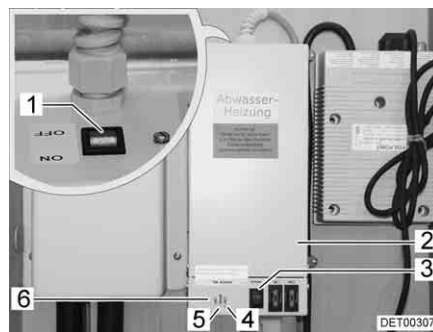

Fig. 116 Transformer with control unit
The 230 V AC/12 V DC transformer (Fig. 116,2) is installed in the wardrobe or in the storage area beneath the seating group, depending on the model.
- The indicator lamp (Fig. 116,5) lights up in green: Regulation in operation
- The indicator lamps (Fig. 116,4 and 6) light up in red: Waste water pipes are warmed
A test button (Fig. 116,3) is integrated in the housing with which the control unit can be operated for a short time. By pressing the test button, the function of the warming unit can be tested, even if the ambient temperature is above 5 °C.
- Turn switch (Fig. 116,1) on the transformer (Fig. 116,2) to "ON".
- Turn switch (Fig. 116,1) on the transformer (Fig. 116,2) to "OFF".